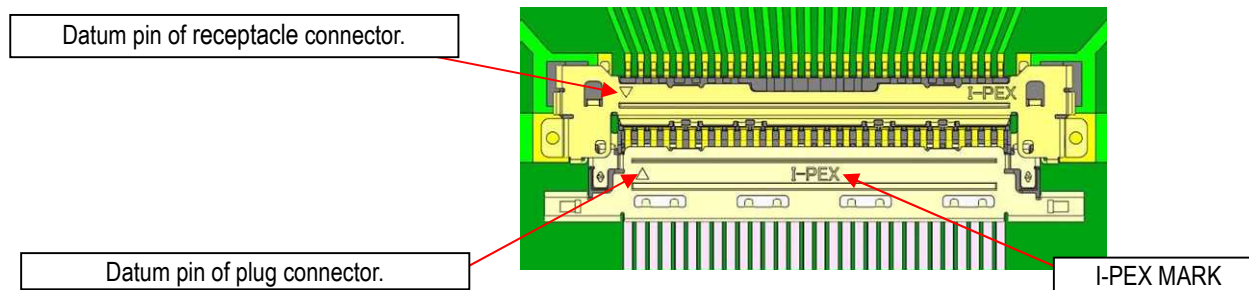

Fig.1
1. As shown in Fig.1, please set so that the datum pin mark of the plug connector and the receptacle connector are matched.